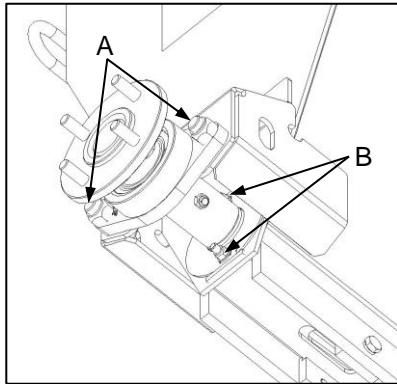

Fig. 3
- Remove the wheel bearing mounting bolts (Fig. 3-A) and the shaft cover plates (Fig. 3-B).
- Verwyder die wielkoeëllaermonteerboute (Fig. 3-A) en die as-dekplate (Fig. 3-B).